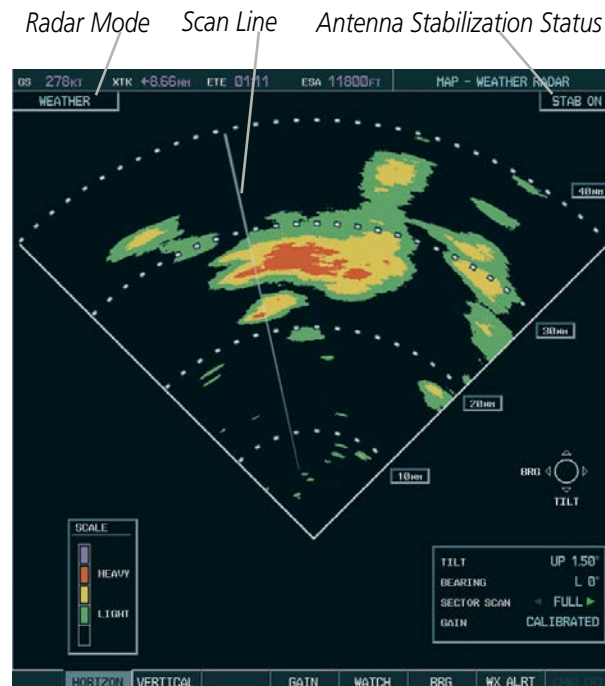

Figure 6-107 Horizontal Scan Display
- 5) The horizontal scan is initially displayed (Figure 6-107). If desired, select the **VERTICAL** Softkey to change to vertical scanning.